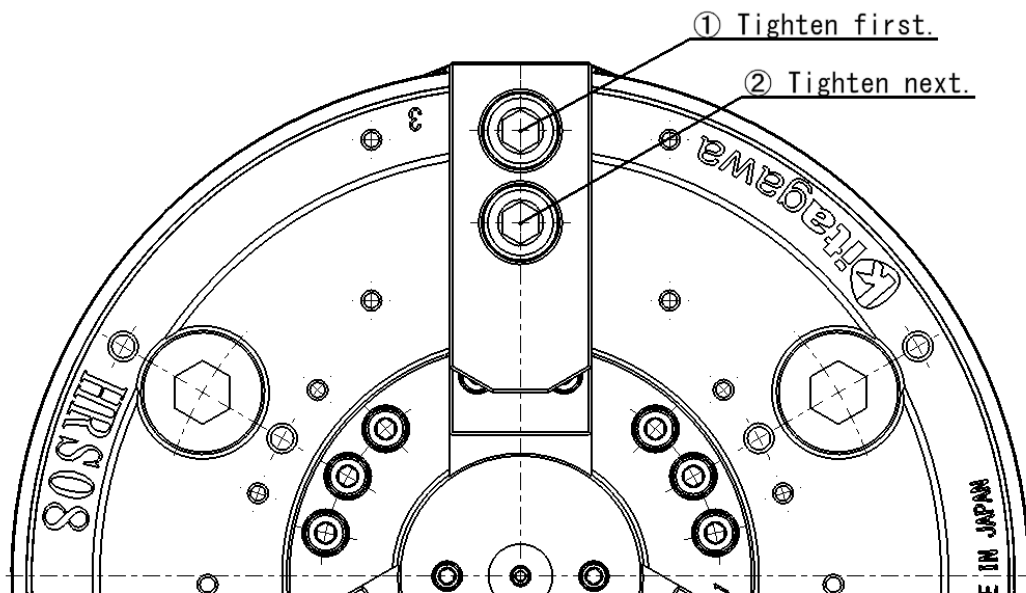

Figure 11-2 Tightening order of the jaw mounting bolts
- To maintain the installation repeatability of the Tnut-Plus for a long period of time, always tighten the jaw mounting bolts from the chuck outside diameter side ① with the specified torque. (See Figure 11-2)